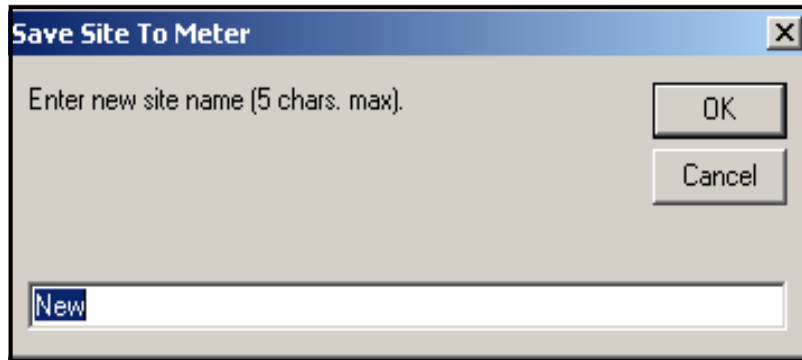

Figure 33: Site Name Entry Window
2. A window opens similar to *Figure 33* below. Enter the desired name, and click **[OK]**.